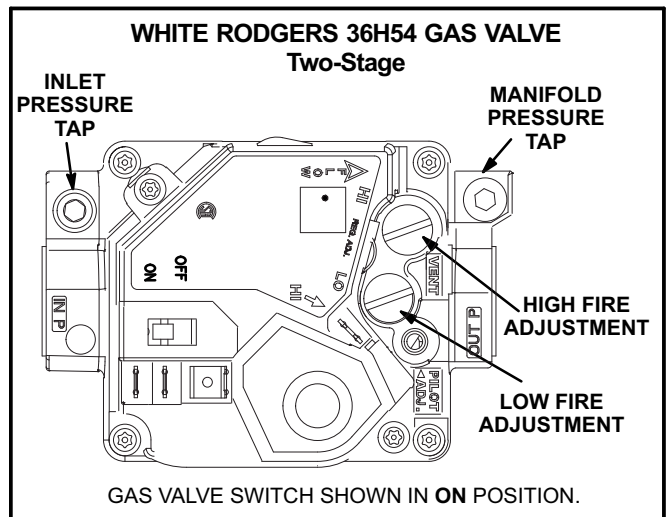
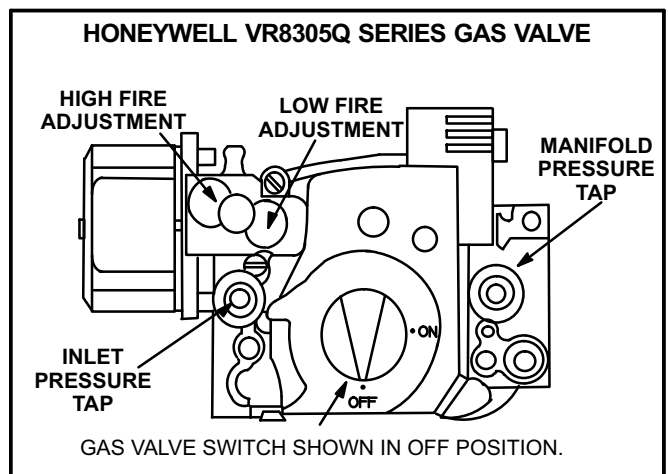

FIGURE 16
FIGURE 17
#### Gas Valve Operation for Honeywell VR8305Q or White Rodgers 36H54 (figure 16 or 17)
- 5- Turn gas valve switch to **OFF**. See figure 16. On Honeywell VR8305Q gas valves, turn the knob on the gas valve clockwise  to “**OFF**”. Do not force. See figure 17.
- 6- Wait five (5) minutes to clear out any gas. If you then smell gas, **STOP!** Immediately call your gas supplier from a neighbor's phone. Follow the gas supplier's instructions. If you do not smell gas, go to the next step.
- 7- Turn gas valve switch to **ON**. See figure 16. On Honeywell VR8305Q gas valves, turn the knob on the gas valve counterclockwise  to “**ON**”. Do not force. See figure 17.